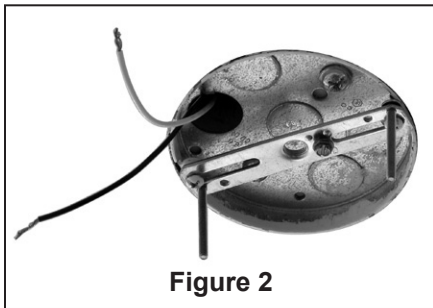

Figure 2
2. Mount assembled Crossbar to junction box with screws (provided with your junction box) (Figure 2).